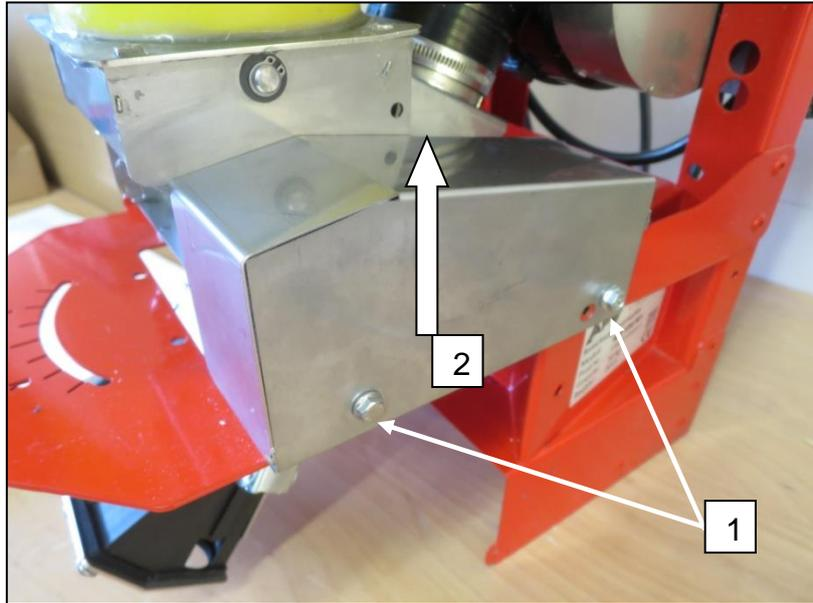

Fig.: 114
- To remove the seeding shaft motor cover, loosen the two bolts 1 marked in Fig.: 114 and pull off the cover towards the top 2.